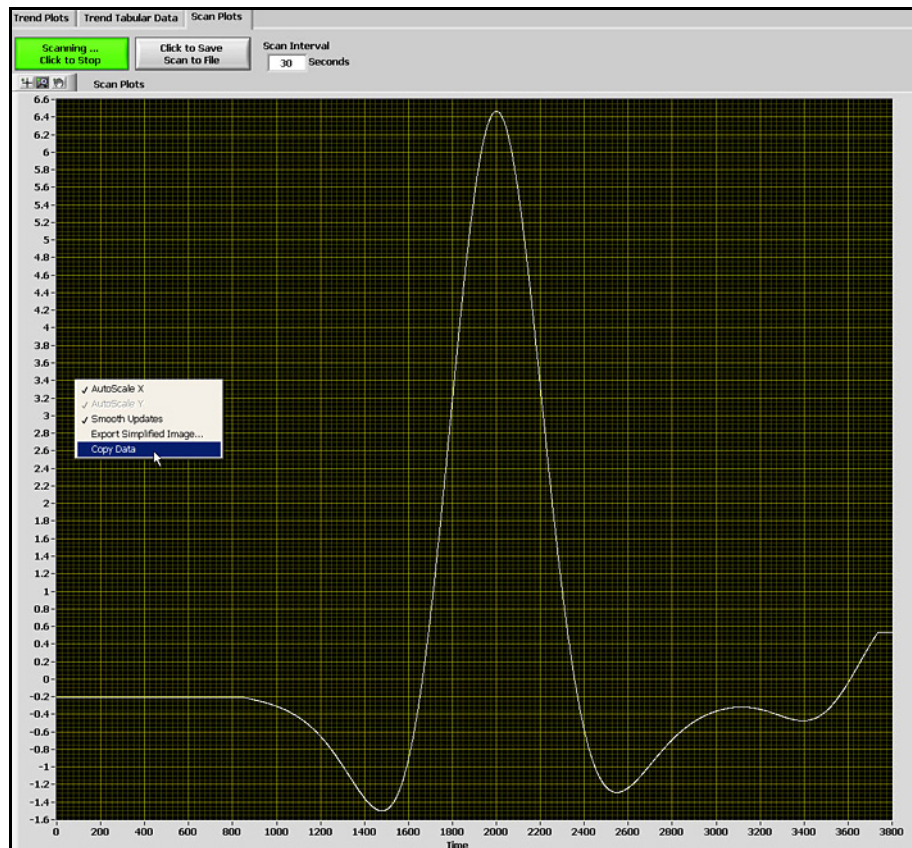
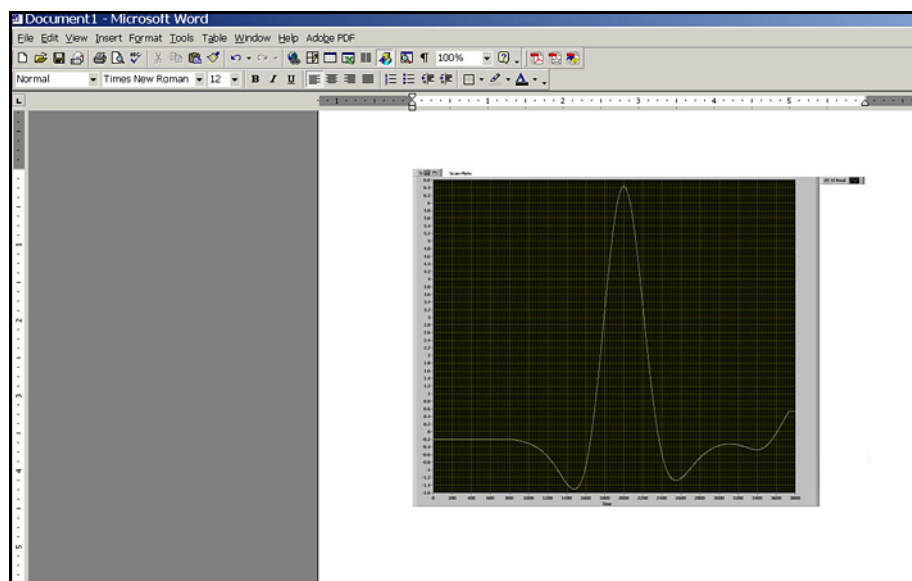

Figure 77: Copying a Trend Plot
Figure 78: Pasting a Trend Plot
4. Copying and Pasting a Trend Plot can be done from AuroraView (see *Figure 77* and *Figure 78* below) One way to do this quickly is to simply right click over the data area and choose Copy. In another application, like Microsoft Word, simply paste.